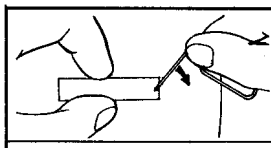

FIGURE 4.
- a. Remove the card retainer (name plate) near the front of the housing by inserting the tip of the releaser tool into the small slotted hole at the edge of the card holder. Do not insert more than 1/8" into the card holder. See Figure 4.